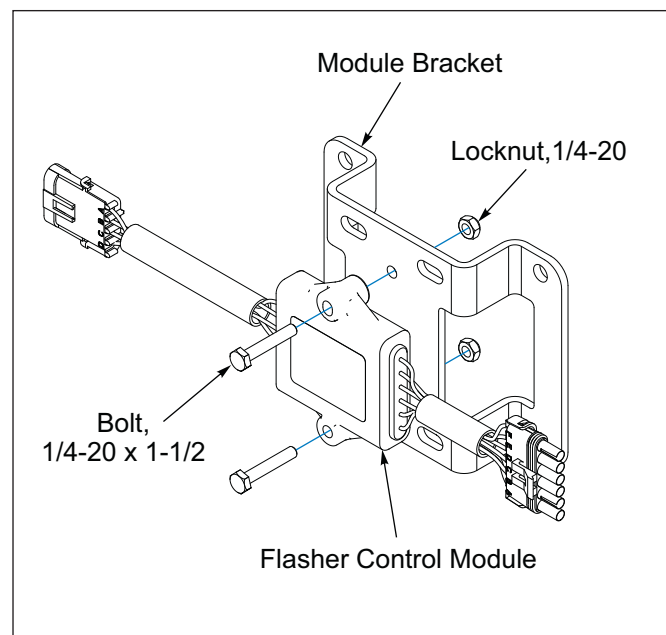

Figure 2-16: Flasher Control Module and Bracket
1. Attach Amber Lamp to the upper portion of the Light Bracket located at the ends of the Seed Box with 1/4-20 x 1-1/4 Bolts and Locknuts. **See Figure 2-16.**